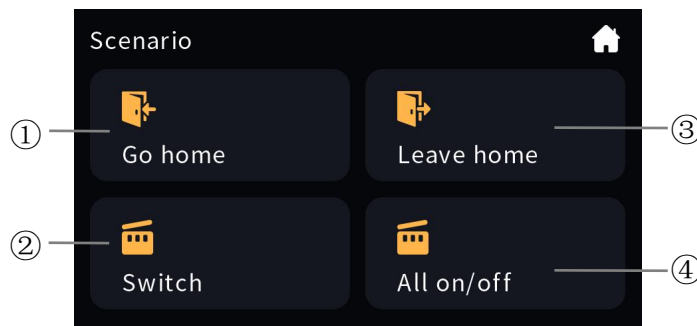

Fig.2.2.3
①~④: The layout shows the style of the selected 4 icons, shown as Fig.2.2.3 above. The marked serial number is consistent with the sequence number of the function icon in the ETS,